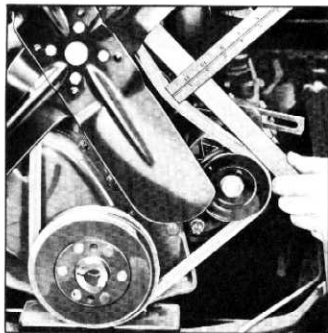

Fig. 35— Fan Belt Adjustment
13. With the wide fan belt used prior to 1953, replace and adjust to give ¾" deflection midway between pulleys. The narrow belt used on 1953 models should be adjusted to give 7/16"-¾" deflection at this point (fig. 35).